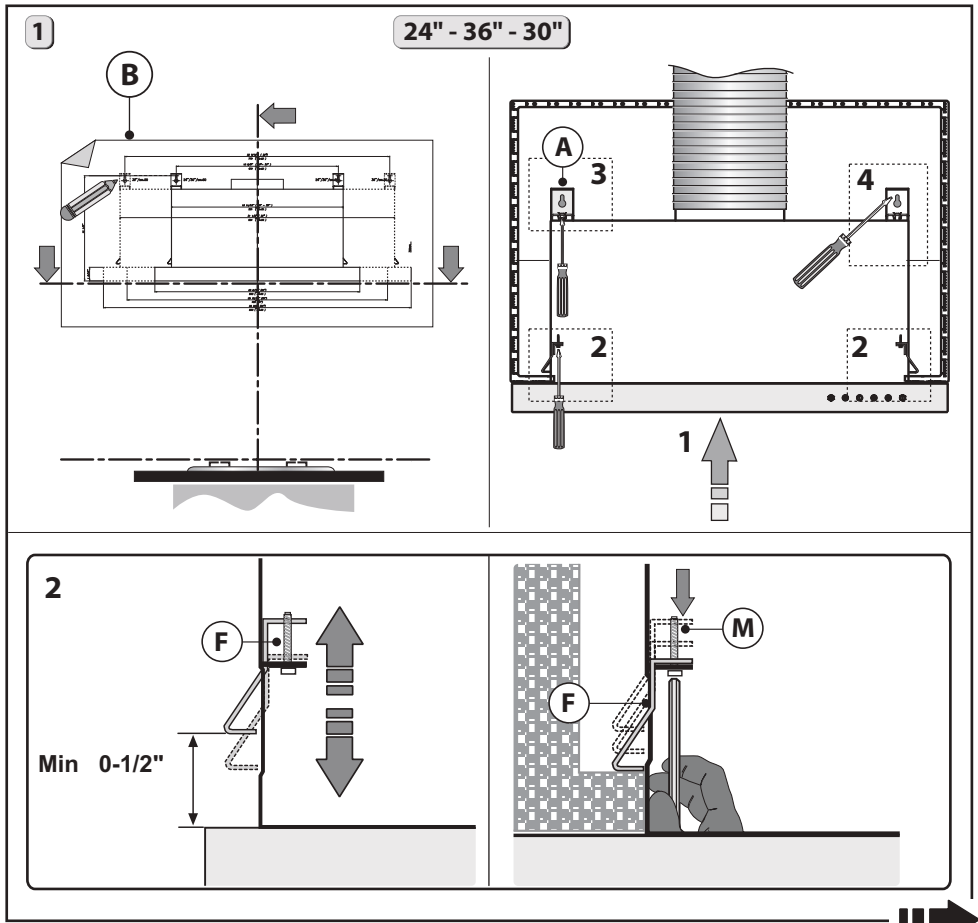
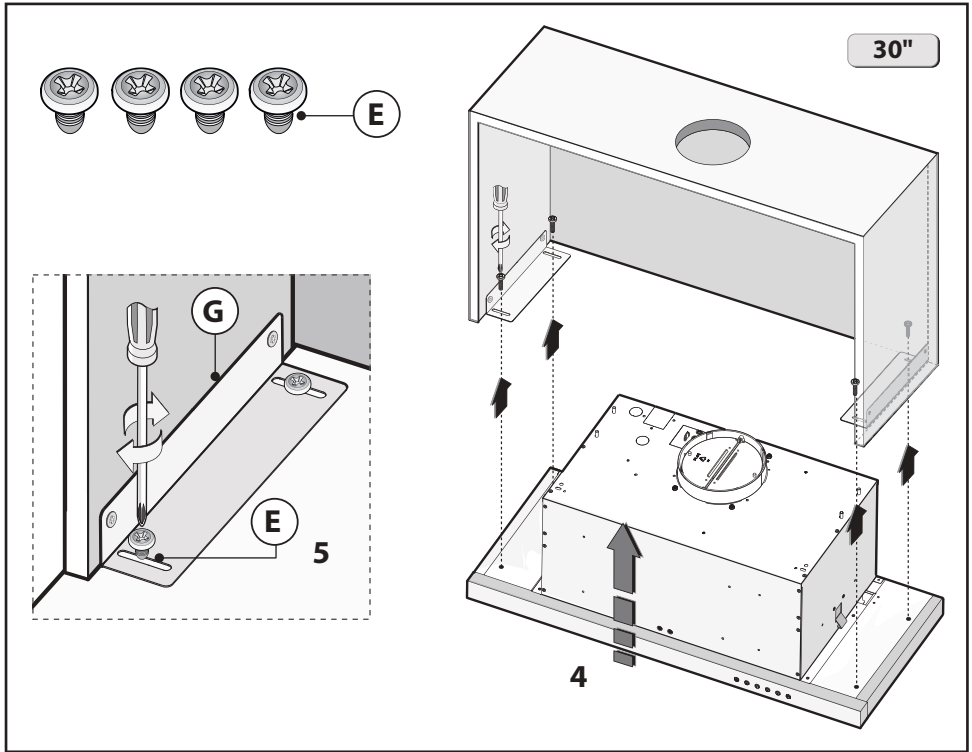

Fig.4
Fig.6
1. Remove pin Y from bracket A. (Pin Y can be discarded.) Then place the insert X on the slot of the bracket A, as indicated in Fig. 4 - step 3. Match the C screws with the L washer and attach the A bracket to the cabinet as indicated in Fig. 4 - step 3.1. Do not completely tighten screws C to allow the bracket to slide back and forth.
- Mark the references to fasten brackets A to the wall cabinet, as indicated in Fig. 4.
3. Make sure the thickness of the wall cabinet is within the parameters indicated in Fig. 4 - step 2.
firmly against the wall cabinet (Fig. 4 - step 2).
5. Remove pin Y from bracket A. (Pin Y can be discarded.) Then place the insert X on the slot of the bracket A, as indicated in Fig. 4 - step 3.
6. After any adjusting to ensure the bracket touches the wall cabinet, tighten the bracket to the body (Fig. 4 - step 3.3).
- Fasten screw D to the wall cabinet as indicated in Fig. 4 - step 4.
- Once you have fastened the hood to the wall cabinet, adjust the spacer L, with the screws P, to make the device line up with the rear wall cabinet (Fig.. 4 - step 5).
- 3 - Make sure the thickness of the wall cabinet is within the parameters indicated in Fig. 4 - step 2.
- 4 - Install the hood in the wall cabinet and make sure the 2 side springs F are connected correctly. Fasten the hood to the wall cabinet using the screwdriver and the relative screws M and tighten until the device is firmly against the wall cabinet (Fig. 4 - step 2).
- 5 - Fasten the hood to the upper support shelf as indicated in Fig. 5 - step 6. - Once you have fastened the hood to the wall cabinet, adjust the spacer L, with screws P, to fill the gap between the hood and rear wall. (Fig. 4 - step 5).
This model includes side installation to the wall cabinet by using 2 brackets B (Fig. 6 besides steps 3-4, indicated in Fig 4).
- Mark the references to fix brackets A to the wall cabinet, as indicated in Fig. 6.
2 - Position the second template E on the side of the wall cabinet and make sure that the line matches up with that traced in Fig. 6 - step 1.
3 - Mark and drill the 4 fixing holes (Fig. 6 - step 2).
- Fasten the 2 brackets G to the wall cabinet using the 4 screws D (Fig. 6 - step 3).
- Fasten the hood to bracket G using the 4 screws E (Fig. 6 - step 4-5).
4- Remove pin Y from bracket A. (Pin can be discarded.) Then place the insert X on the slot of the bracket A, as indicated in Fig. 4 - step 3.
- Match the C screws with the L washer and fix the A bracket to the cabinet as indicated in Fig. 4 - step 3.1. Pay attention not to completely tighten screws C before the bracket firmly reaches the wall cabinet (Fig. 4 - step 3.2). After any adjusting, tighten the bracket to the body (Fig. 4 - step 3.3).
- Once you have fastened the hood to the wall cabinet, adjust the spacer L, with screws P, to make the device line up the rear wall cabinet (Fig. 4 - step 5).